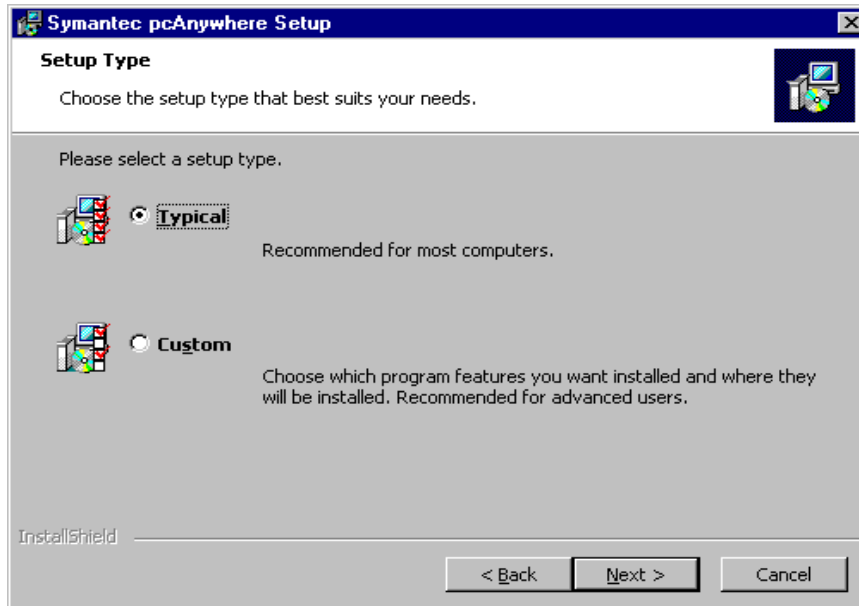

Fig. 19
- Window "Setup Type" (Fig. 19) appears.